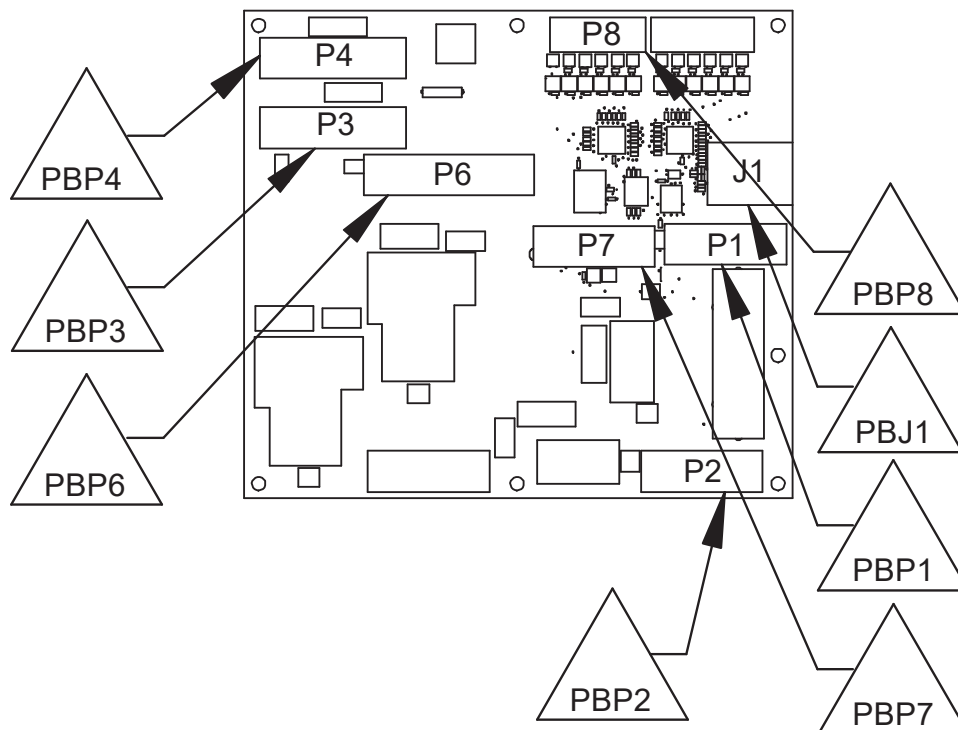

Figure 3-5. Power Board Connector Identification
These instructions outline the basic steps to replace the power board. Refer to Figure 3-5.
2. Connect wires as shown in power board wiring diagram. See Figure 3-5.